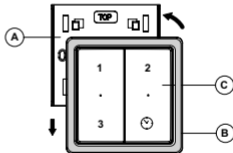

Fig 6.
3. Place the cordless switch and frame approx. 5 mm above locking plate A and lower it until it clicks tight into the fastening lugs of the locking plate. (fig.6)